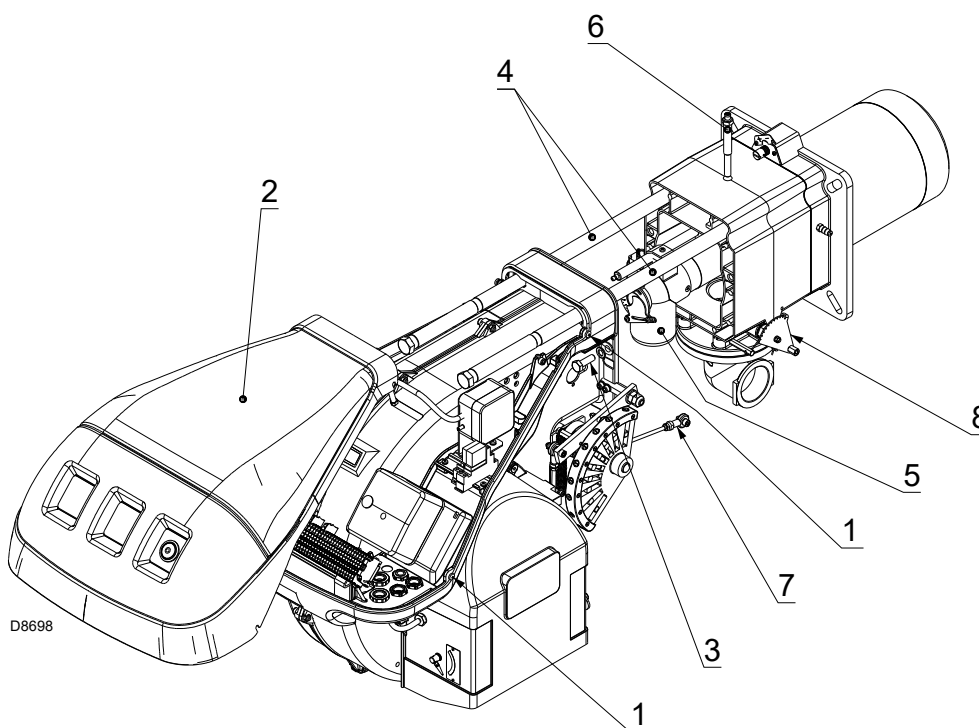

Fig. 38
Check the gas outlet holes for the ignition phase (in the distributor of the combustion head) are free of impurities or rust. If in doubt, disassemble the elbow 5)(Fig. 38, page 33).
- Loosen the screws 1) and remove the hood 2)(Fig. 38).
- Replace the screws 3)(Fig. 38) and carefully pull the probe and electrode cables out until they are slightly taut.